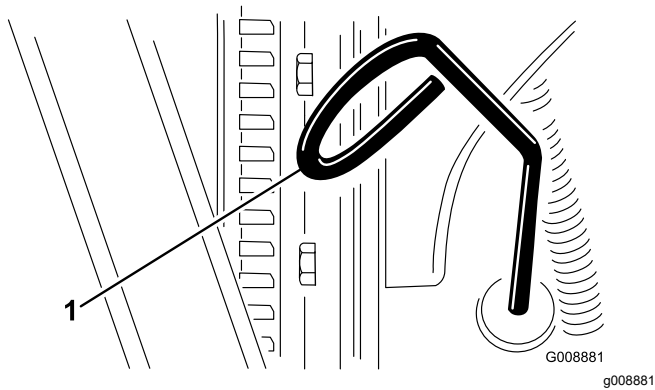

Figure 48
2. Remove the dipstick (Figure 48) and wipe it with a clean rag.